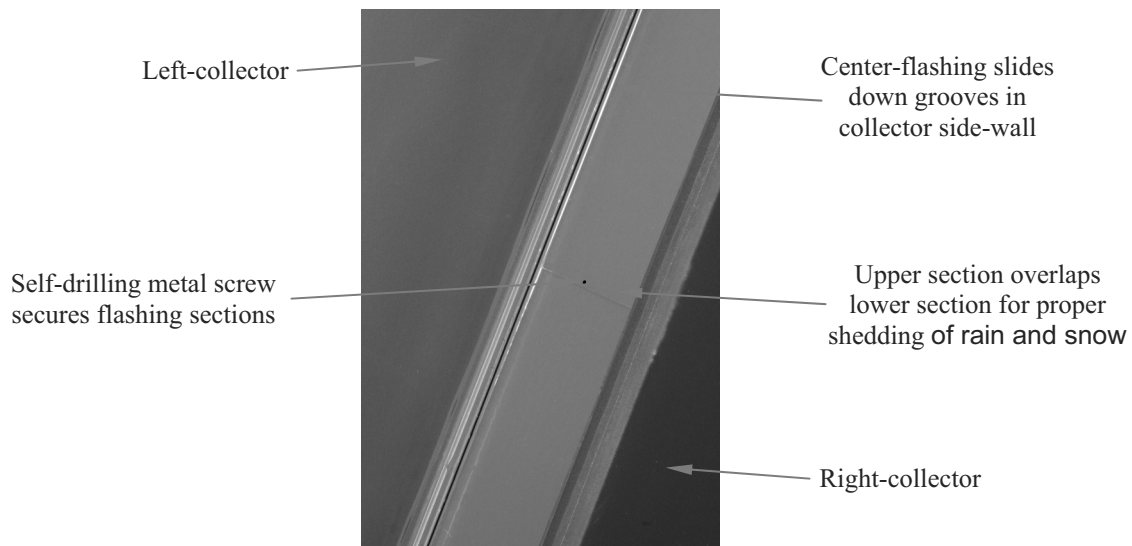

Fig.6.2.1 – Center-flashing slides between collectors (2, 3 and 4-collector Appliances).
1. Slide center-flashing between collectors in collector side-wall grooves. Upper length should overlap lower length to ensure proper rain and snow shedding (*Fig.6.2.1*).
3. Secure upper center-flashing section to lower section with a self-drilling screw (Fig.6.2.1).